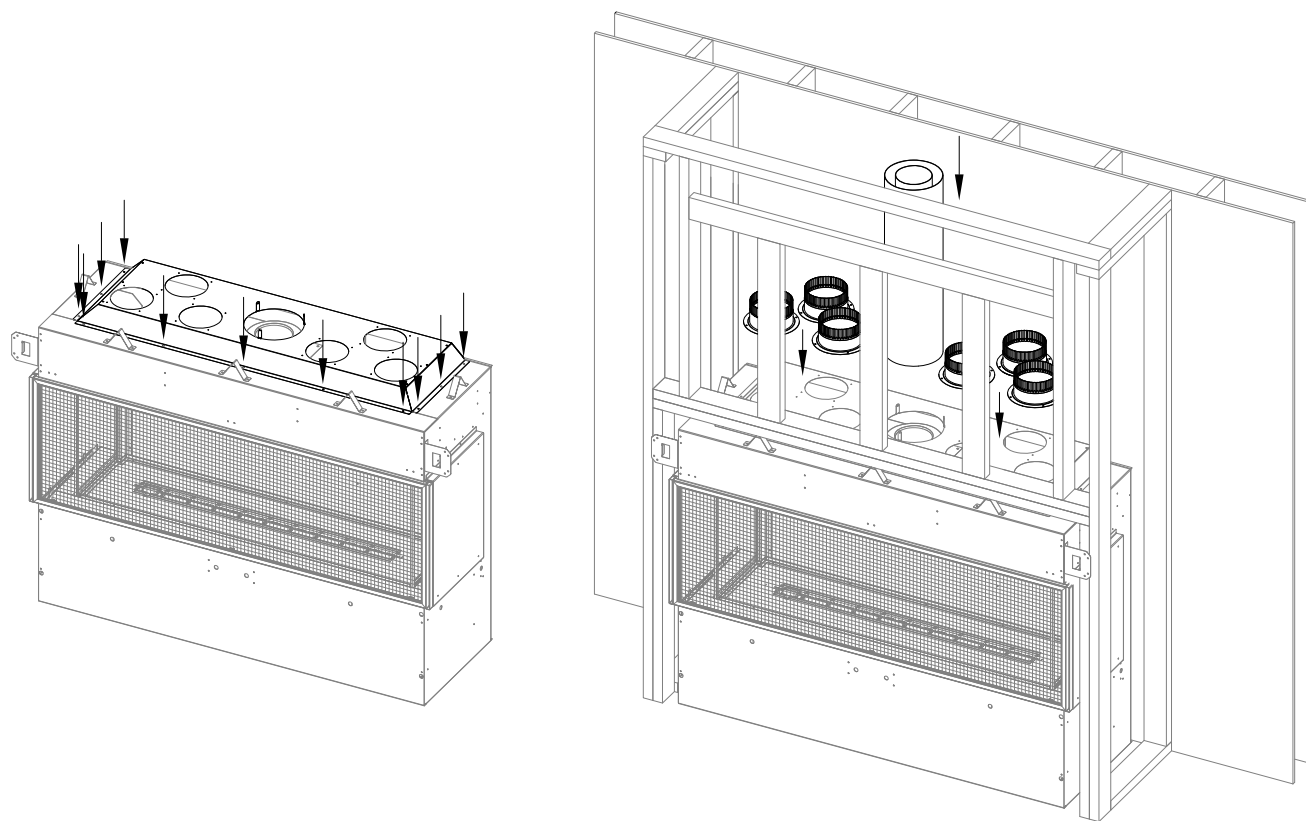

Figure 4.19 - KZK Collar Plate and Collar Installation
Important: You must order a (1) G6020-ACH with your KZK-056 or KZK-1510 and KZK-610. The G6020-ACH attaches to the fireplace. See Figure 4.19.